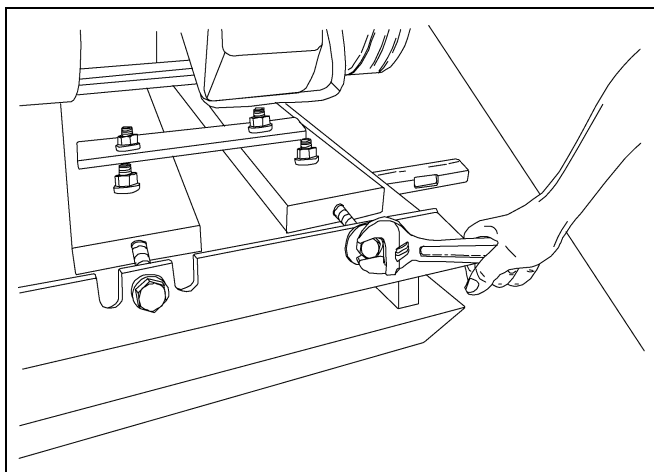
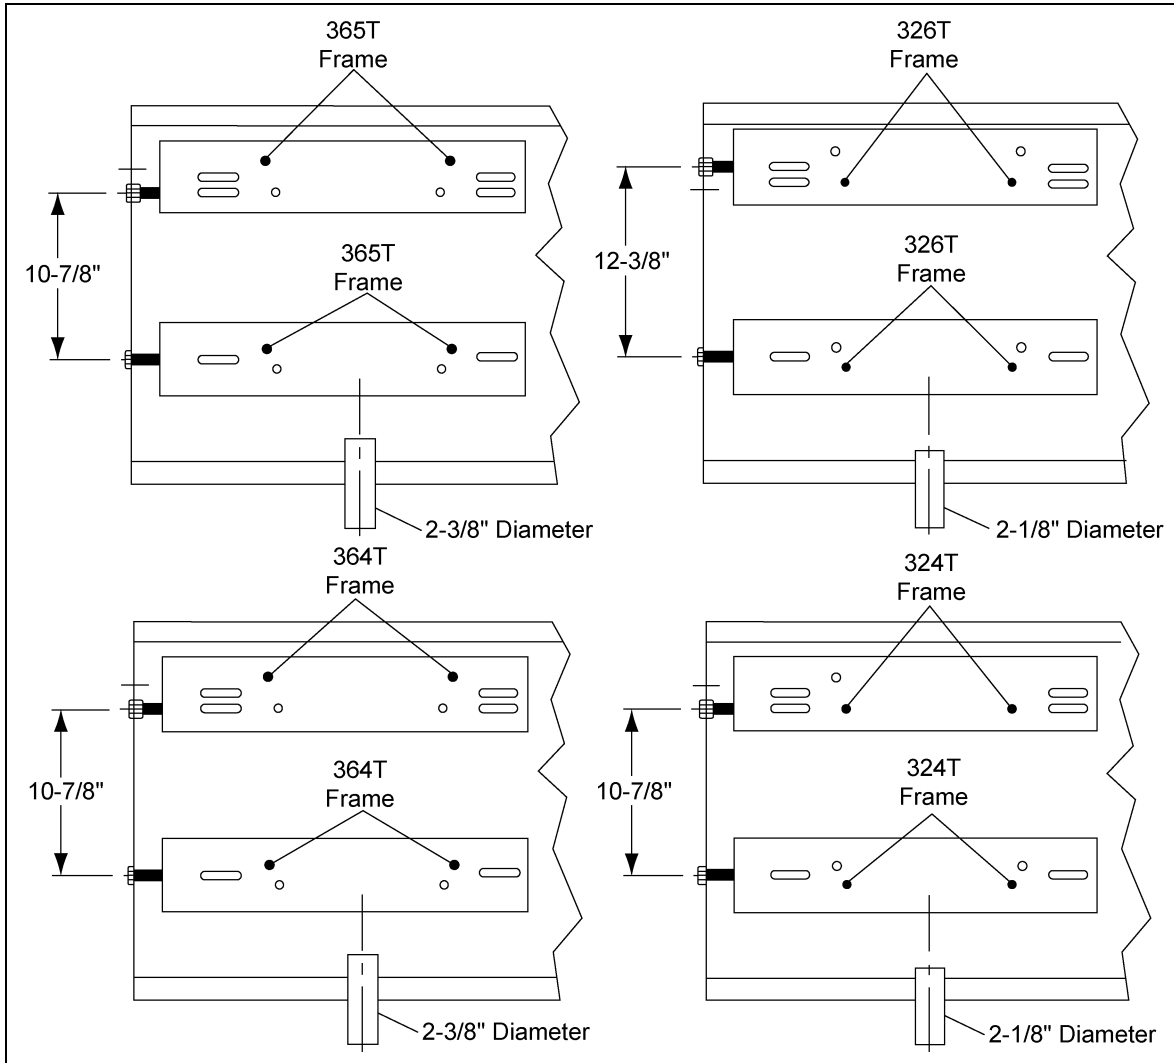

Figure 7D
Figure 7M
3. Check the motor nameplate for the correct motor frame size. Then refer to Figure 7M on Page 22 to determine proper mounting holes and spacing of the motor mount channel. The spacing of the motor mount channels is changed by moving the channel to the proper notch cut into the main base of the blower platform. See Figure 7D and refer to Figure 7M on Page 22. Finish by bolting the motor securely to the channels. Leave the four (4) 1/2" carriage bolts loose, holding the channels to the main frame.
5. Place the matching set of V-belts on the pulleys. Tighten the belts by evenly turning the cap screws clockwise. Belts should have 3/8" deflection at 10 pounds pressure per belt. (See Figure 7D.)